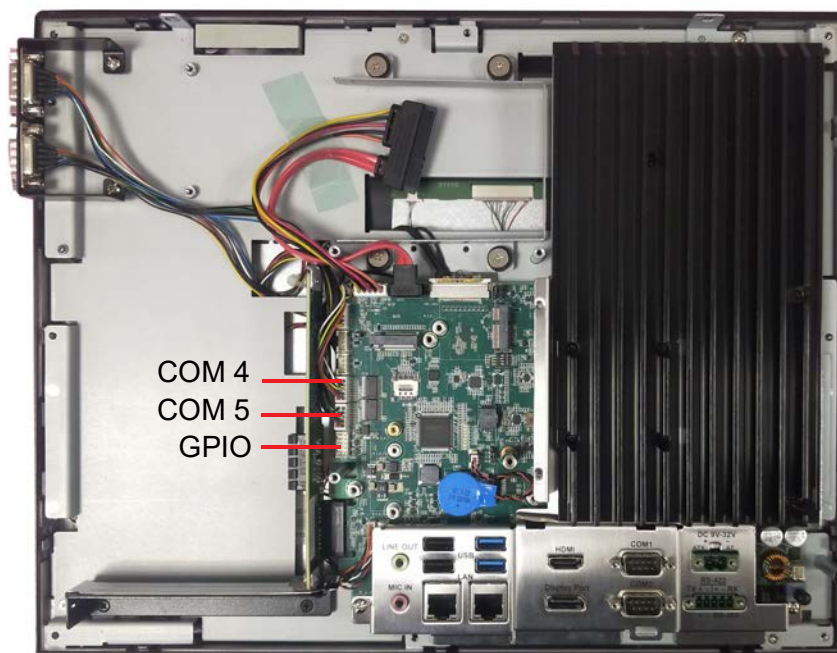

Figure 2.38
2. Retrieve the two COM connectors from the module case and affix them to the I/O shield at the side of the device using two screws. Then connect the COM cables to the mainboard and secure with a cable tie (see Fig. 2.38).